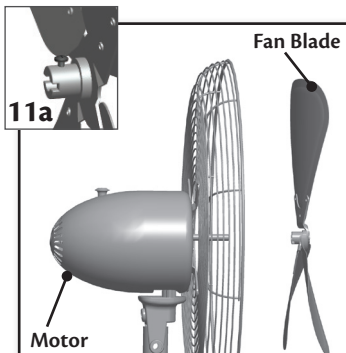

Figure 11
4. Loosen the screw on the back of the Blade assembly. Figure 11a. Slide the Blade assembly onto the motor shaft. Figure 11.